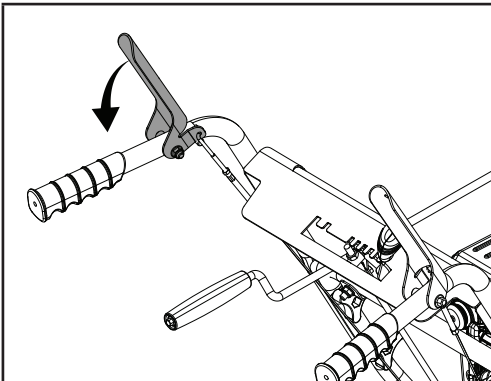

Figure 31
12. Pull the auger control handle to ensure the idler pulley is properly engaging the belt (Fig. 31). Under the belt cover area, make sure the distance on both sides between the guide and pulley is the same.